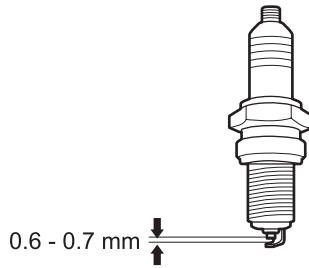

Fig. 30b
7. Check the spark plug gap; it should be 0.6 - 0.7 mm. (See Fig. 30b)